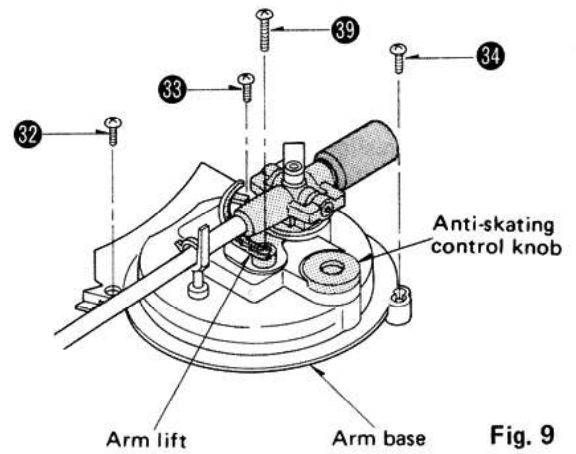

Fig. 9
2. Remove the arm base setscrews 32 ~ 34. Then, the arm base can be removed. (See Fig. 9)
6. When removing this lift base plate, remove the arm lift setscrew 39 before tuning over the arm base, and then remove the arm lift. (See Fig. 9)
7. Remove the anti-skating control knob. (See Fig. 9)